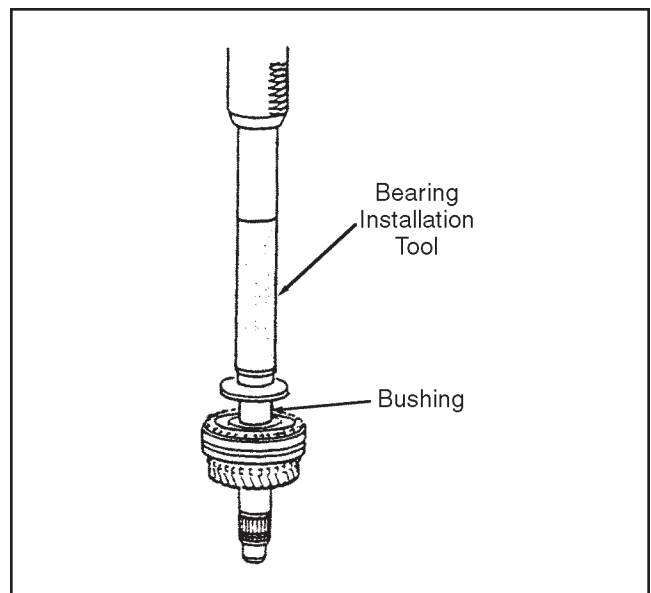

Figure 4G-29. Low Gear Bushing Installation
6. The two reverse gears have their teeth chamfered on one end, and the reverse idle gear is similarly chamfered. When mounting the reverse gears on main shaft and countershaft, respectively, be sure to bring the chamfered end to the outboard side. The chamfered end of the idle gear, however, must face inwardly, as shown in Figure 4G-30.